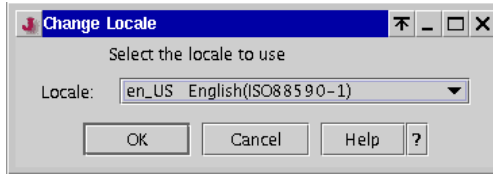

Figure 4-19 Change Locale
2. Select the Change Current Locale task in the Contents area to open the Change Locale window shown in Figure 4-19 on page 98.